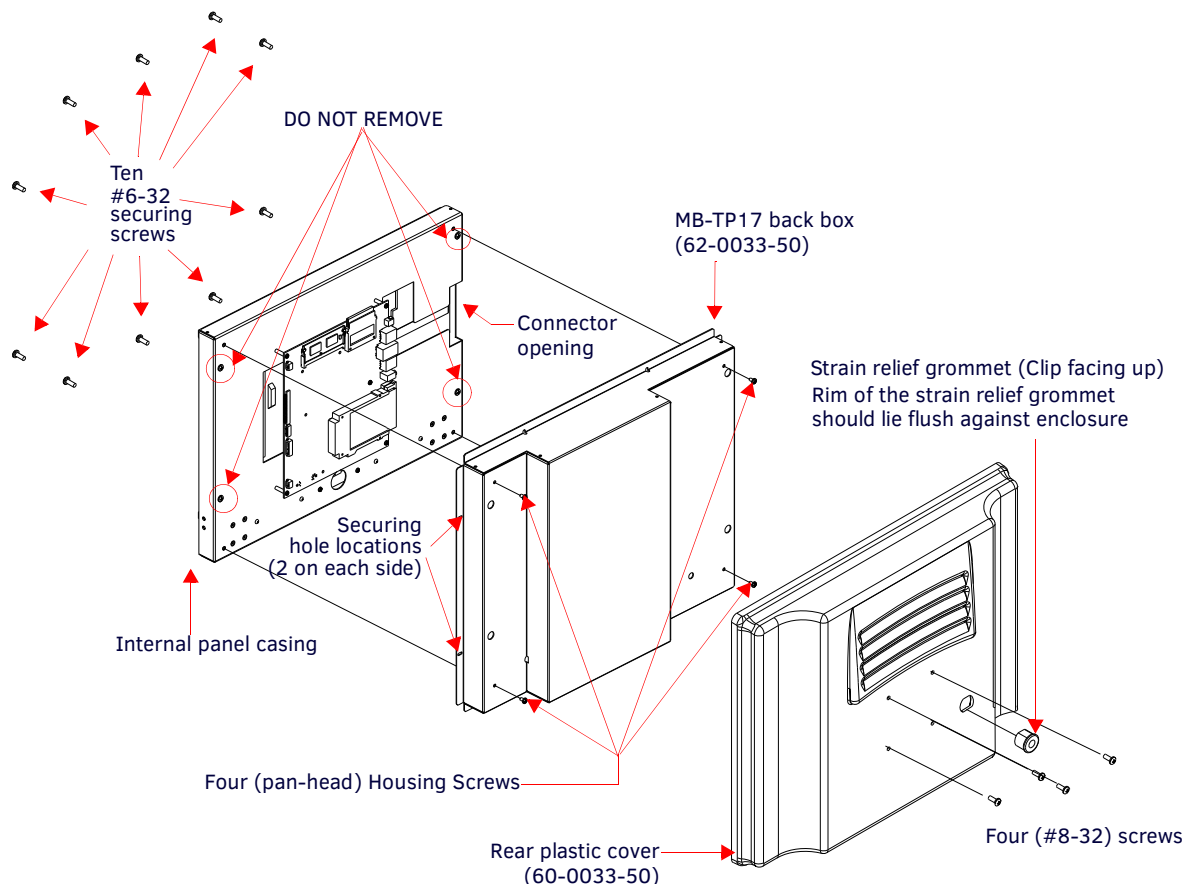

FIG. 51 Location of the attachment screws on the NXD back box and VESA housing
3. Re-install and secure the four pan-head Housing Screws into their pre-drilled holes along the edges of the MB-TP17 back box (FIG. 51) and secure them using a grounded Phillips-head screwdriver.
4. Slide the grommet along the cable and securely insert it into the opening on the rear plastic cover (FIG. 51).
8. Insert and secure the ten #6-32 securing screws into their pre-drilled holes along the edges of the NXD unit (FIG. 51). This step secures the NXD unit to the rim of the rear plastic cover.